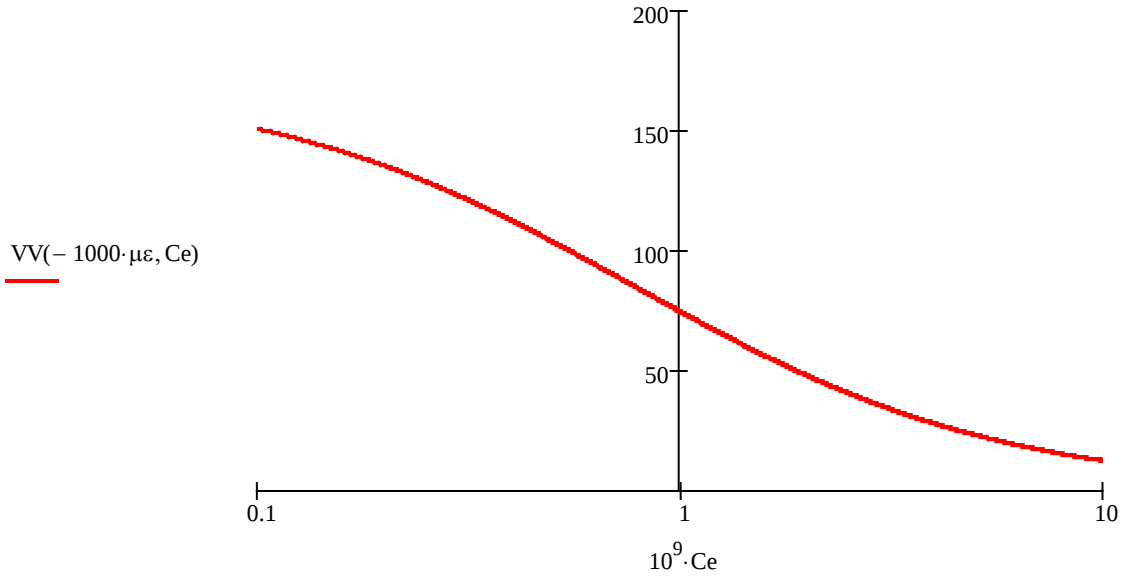

Figure 1 Variation of measured voltage with instrument capacitance C_e for a constant applied strain $S_1 = -1000 \mu\epsilon$.
- (iii) To plot the variation of measured voltage with instrument capacitance $C_e = 0.1 \dots 10$ nF when $S_1 = -1000 \mu\epsilon$, use Eq. (2) with the value of S_1 fixed at $S_1 = -1000 \mu\epsilon$, as shown in Figure 1 below.